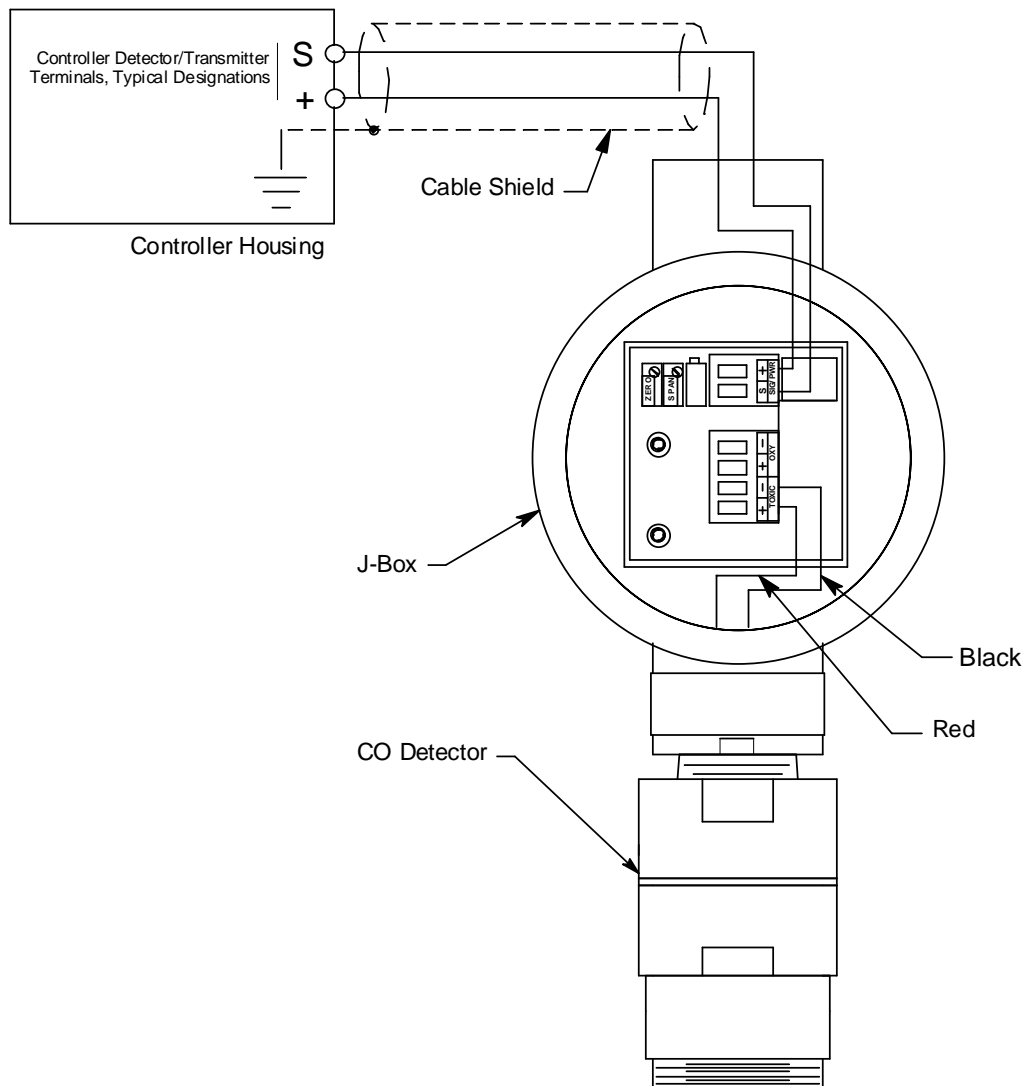

Figure 4: Wiring the CO Transmitter to a Controller
4. The detector leads are factory wired. Verify that the detector leads are wired to the amplifier's detector terminal strip as shown in Figure 4.
7. Pull out the controller terminal strip, and connect the two wires to the terminal strip as follows (see Figure 4):
11. Connect the wires to the applicable detector/transmitter terminal strip at the controller as shown in Figure 4.